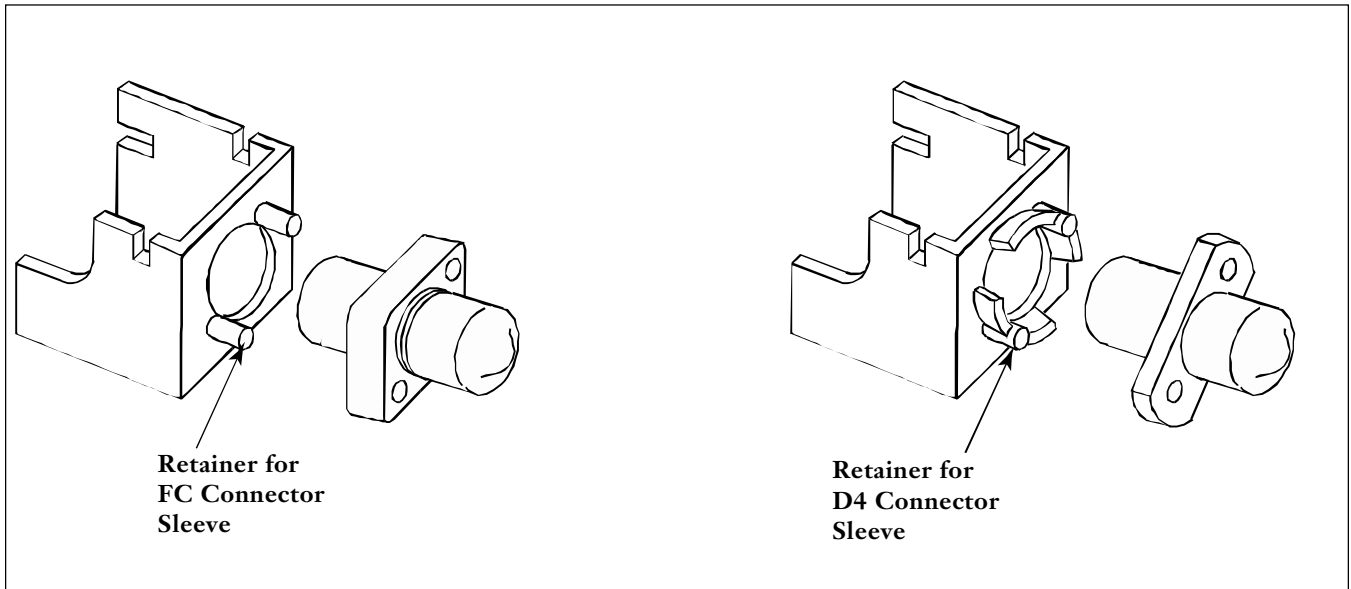

Figure 5
7.1 Identify the connector sleeve retainers you will use (Figure 5). Discard the retainers you don't need.